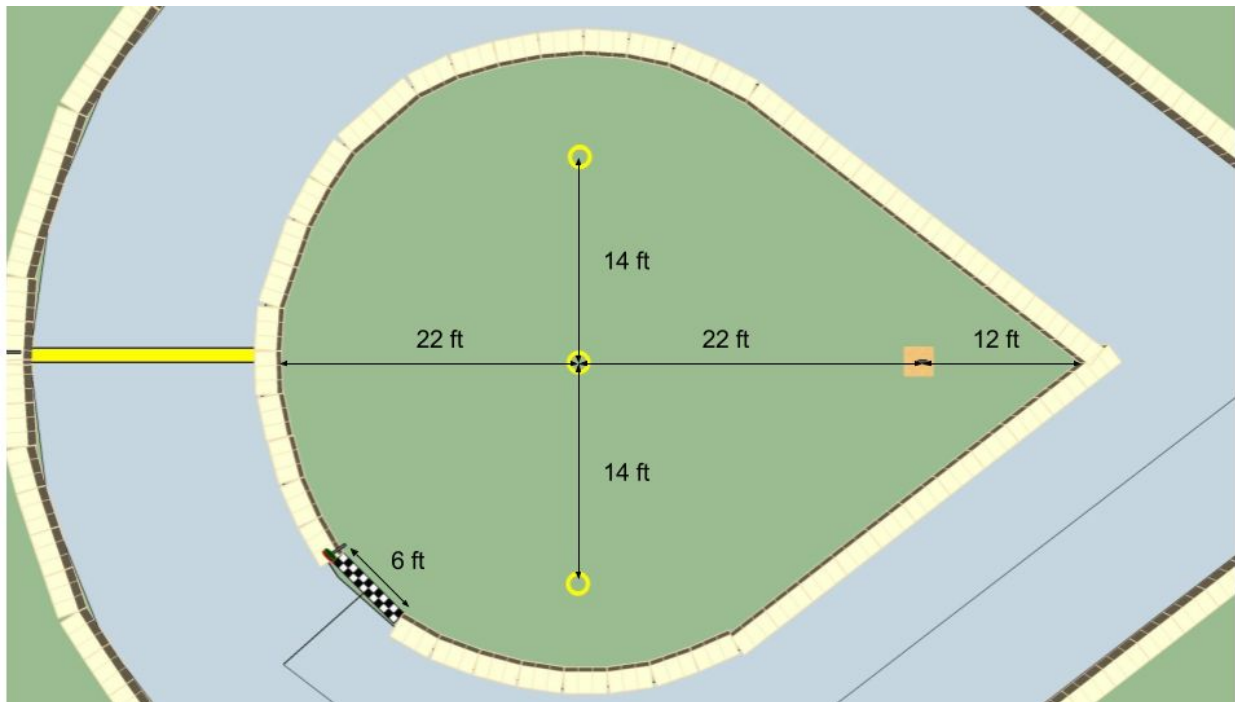

Figure 3.2. Twilight Zone
- 3.2.3.1. Two mirrored zones (Twilight & Danger) – They’re not covered in mirrors; Twilight Zone (Figure 3.2) is a mirror image of the Danger Zone.
- 3.2.3.4. Each will have three pickup locations (yellow rings in Figure 3.2) where one of the colored (red, green, blue) rings will reside.
- 3.2.3.4.2. The three pickup areas will have the three rings originating in that zone in any particular order. The ring locations are shown in yellow in Figure 3.2.